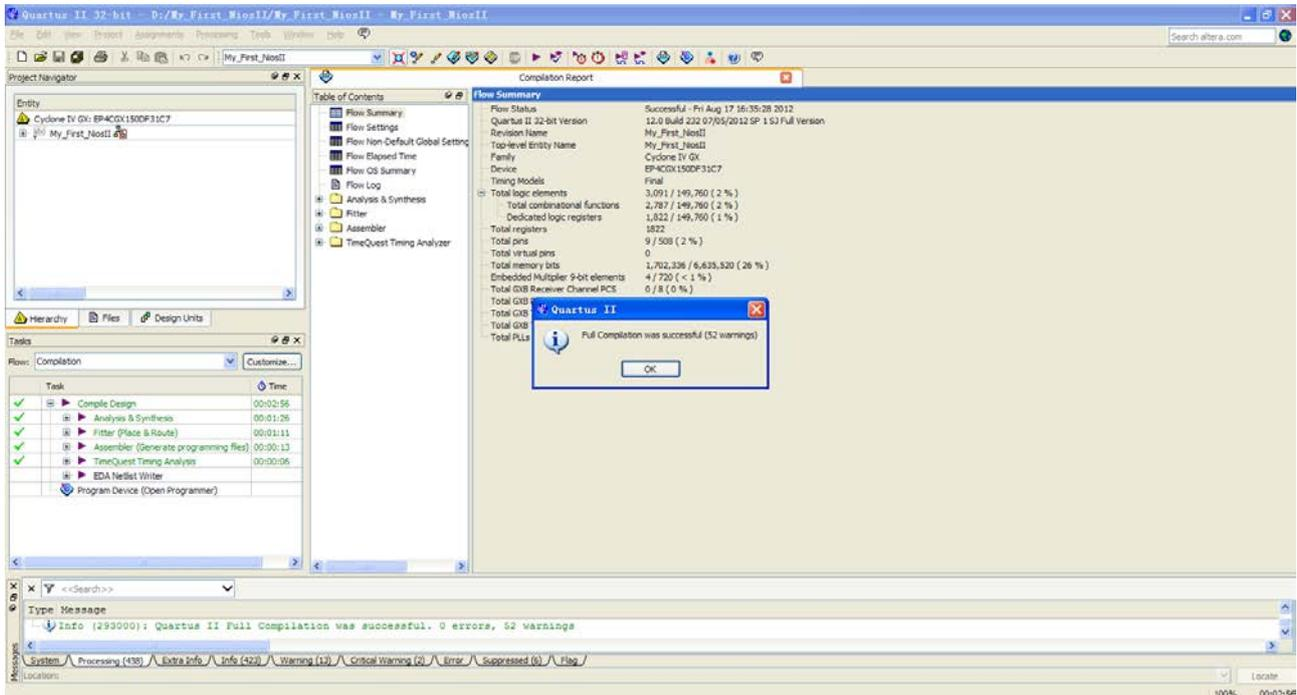

Figure 1-68 Compilation project again
41. Close the **pin planner**. Restart compilation the project as shown in Figure 1-68.